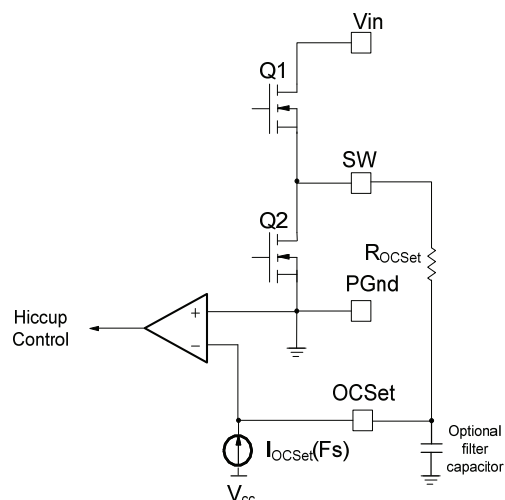

Fig. 7. Connection of over current sensing resistor
The over current protection is performed by sensing current through the  $R_{DS(on)}$  of the sync FET. This method enhances the converter's efficiency and reduces cost by eliminating a current sense resistor. As shown in figure 7, an external resistor ( $R_{OCSet}$ ) is connected between OCSet pin and the switch node (SW) which sets the current limit set point.